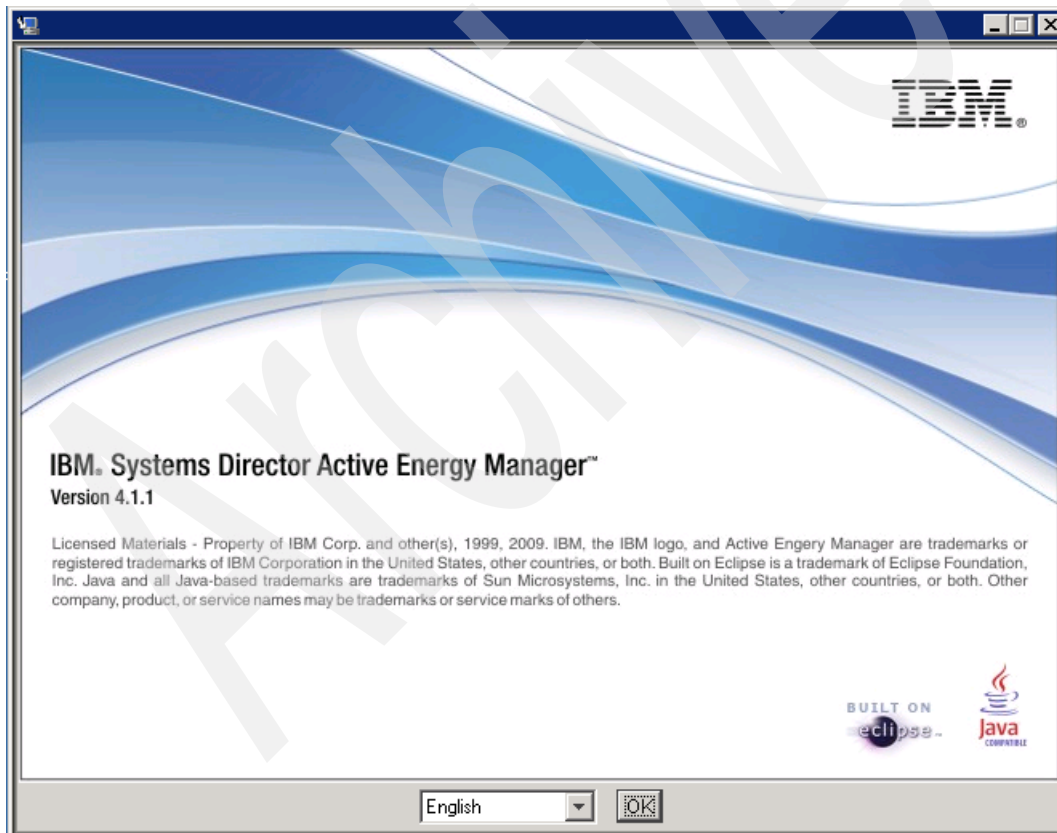

Figure 3-4 Active Energy Manager installation wizard
3. Run the Active Energy Manager installation file to start the installation wizard. In the window that opens (Figure 3-4), select the language for the installation, and click **OK**.
4. The Active Energy Manager installation wizard opens as shown in Figure 3-4 on page 76. From this point, the procedure is the same as the procedure in Windows. Follow the instructions described in 3.2.1, “Installing Active Energy Manager on Windows” on page 76 to complete the installation.
4. The Active Energy Manager installation wizard opens as shown in Figure 3-4 on page 76. Follow the instructions described in 3.2.1, “Installing Active Energy Manager on Windows” on page 76 to complete the installation.